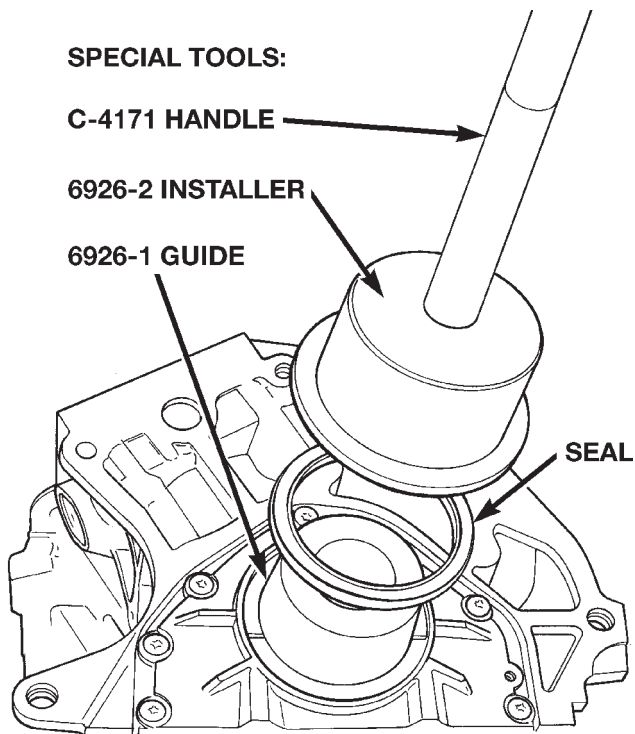

Fig. 83 Crankshaft Rear Seal—Installation
(1) Place Special Tool 6926-1 Guide on crankshaft (Fig. 83). This is a pilot tool with a magnetic base.
(2) Position seal over pilot tool. Assure that lip of seal is facing towards the crankshaft during installa-
(3) Using Special Tool 6926-2 Installer, and C-4171 Handle (Fig. 83), drive seal into the retainer housing until seal is flush with housing surface.
(4) Install drive plate and transaxle.